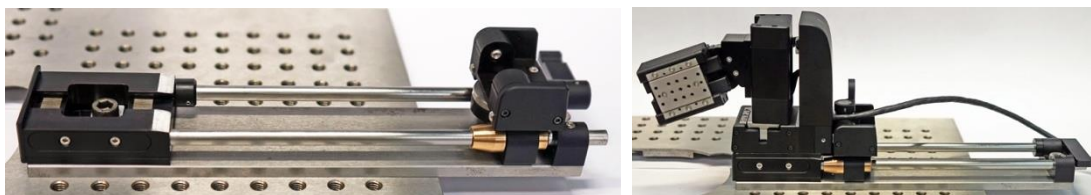

Figure 4. Electrode exchange module installation
3. Unlock docking base lock by turning the locking lever at the back of the uMp-EXM by 90 degrees (Fig. 4, left).
5. Slide the micromanipulator to docking base and lock it by turning lever at the back of the uMp-EXM by 90 degrees (Fig 4, right).